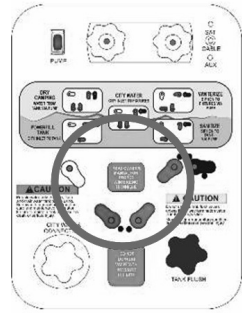

Fig 2: Set 4 valves to 45°
5. To drain tankless water heater: open water faucets, then use compressed air at the City Water Connection on the utility center. **Red, Blue, Green & White Valves must be set to 45° before applying air pressure 30 PSI Max. (Fig 2).** There is no drain plug.
12. After water is drained from the lines, turn the RED, BLUE, GREEN & WHITE valves so they are at 45 degrees as shown (Fig. 2).